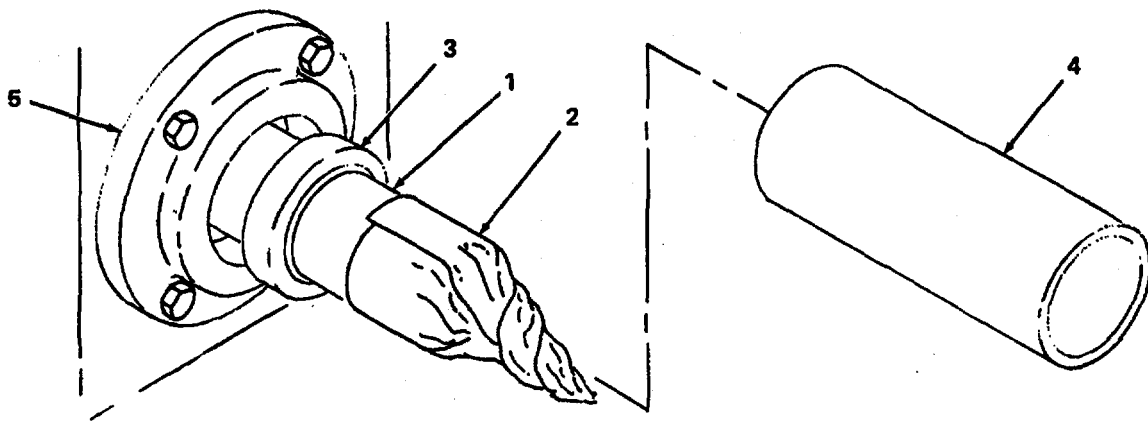

Figure 6-28. Oil Seal Installation.
- (a) Clean shafts (1, figure 6-28) and wrap ends of shafts with a strong, thin, greased piece of paper (2) to protect seals from edges of keyways.